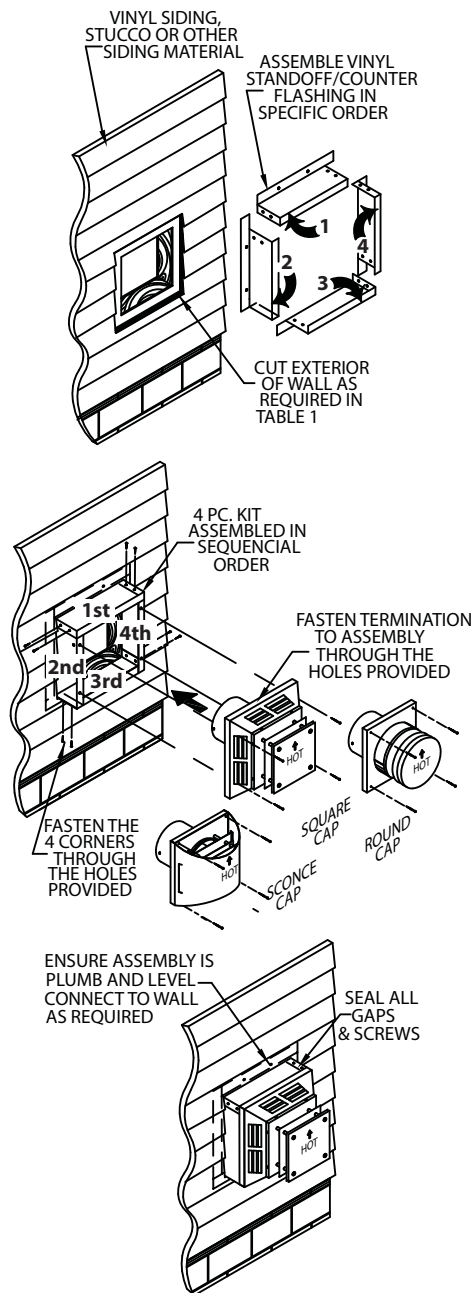

Figure 12
- Loosely assemble the four parts, in order, around the opening in the vinyl siding. Place the first of 4 pieces along the upper edge of the opening in the vinyl siding. Progressing counter-clockwise, place the left side, the bottom side, and then the right side around the opening in the siding. Refer to **Figure 12**.
- Attach the Horizontal Cap to the Vinyl Siding Standoff. Line up the holes in the cap with the holes in the Vinyl Siding Standoff and secure with the (4) long screws provided with the cap.
Secure to the wall using the screws provided or other necessary connector depending on the wall material. Attach the Horizontal Cap to the Counter Flashing by lining up the holes in the cap with the holes in the Counter Flashing. Secure using the 4 long screws provided with the cap (**Fig. 12**).